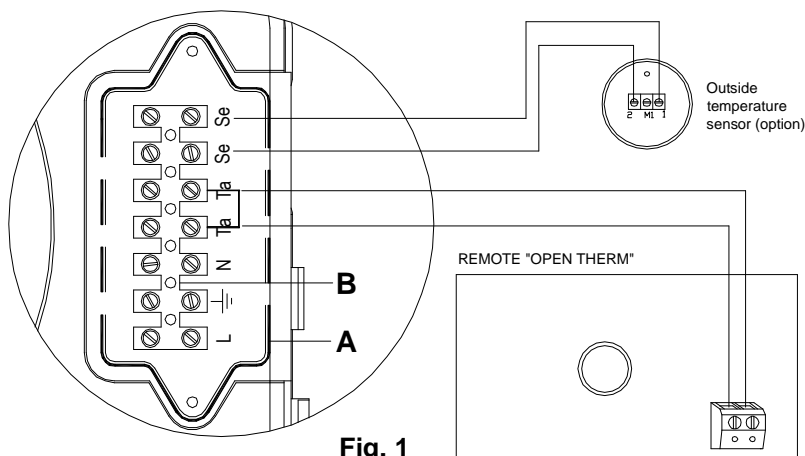

Fig. 1
- slacken the screws and remove plate A (see fig.1).